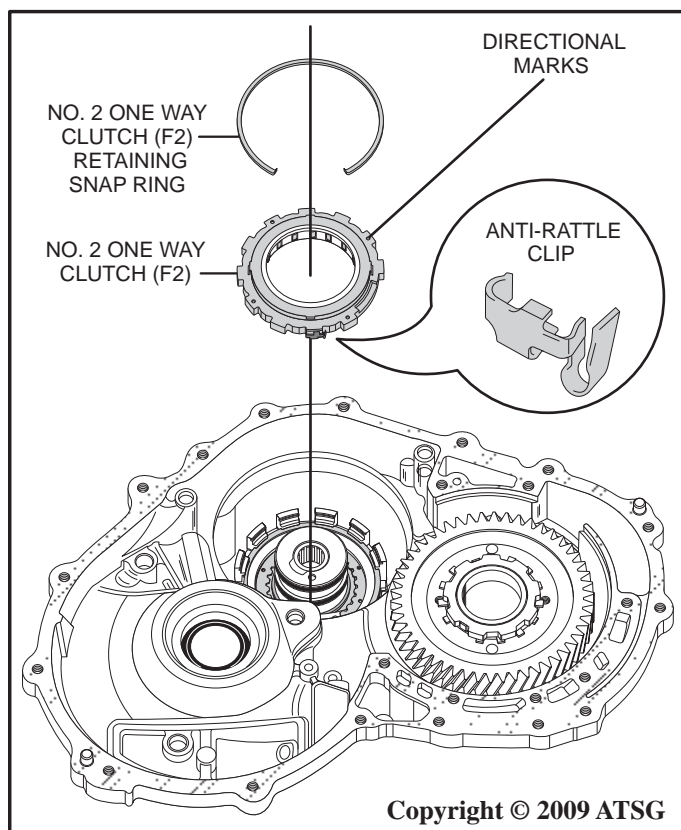

Figure 193
94. Attach the anti-rattle clip to the No. 2 one way clutch (F2) as shown in Figure 193.
95. Coat the rollers of the No. 2 one way clutch (F2) with a small amount of ATF, then install into the case with the anti-rattle clip in the 6 o'clock position in the case and the directional marks facing upward as shown in Figure 193.
96. Using a small screwdriver, install the no. 2 one way clutch (F2) retaining snap ring into the case as shown in Figure 193.